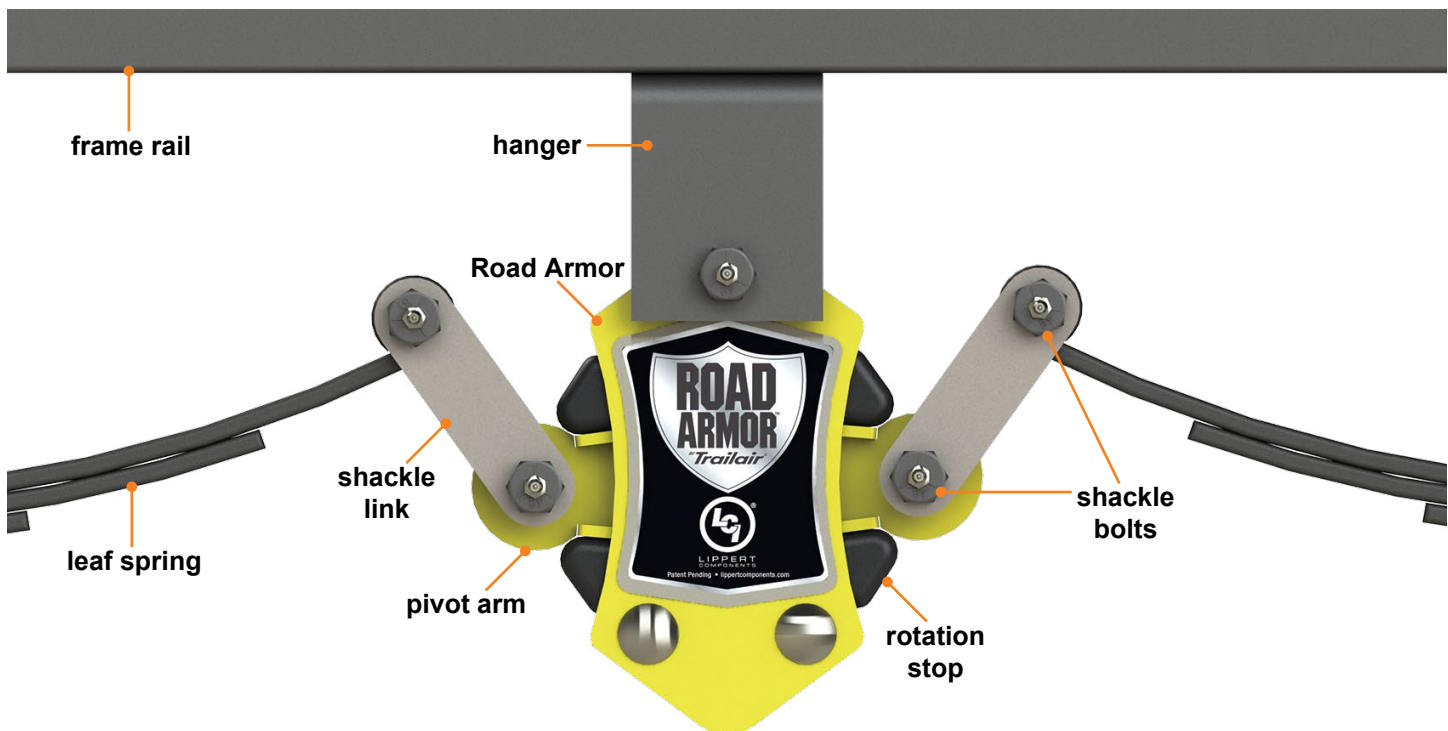

Fig.4
**NOTE:** Support framework in accordance with the manufacturer's recommendations. Please reference Fig.4 for the following procedural steps.
2. Install the equalizer bolt (Fig.4) through the first bracket of the hanger, then through the topmost bronze bushing of the Road Armor equalizer and, finally, through the second bracket of the hanger.
6. Using shackle bolts and nuts, attach the new shackle links (Fig.4) to the Road Armor pivot arm bushings and the leaf springs.